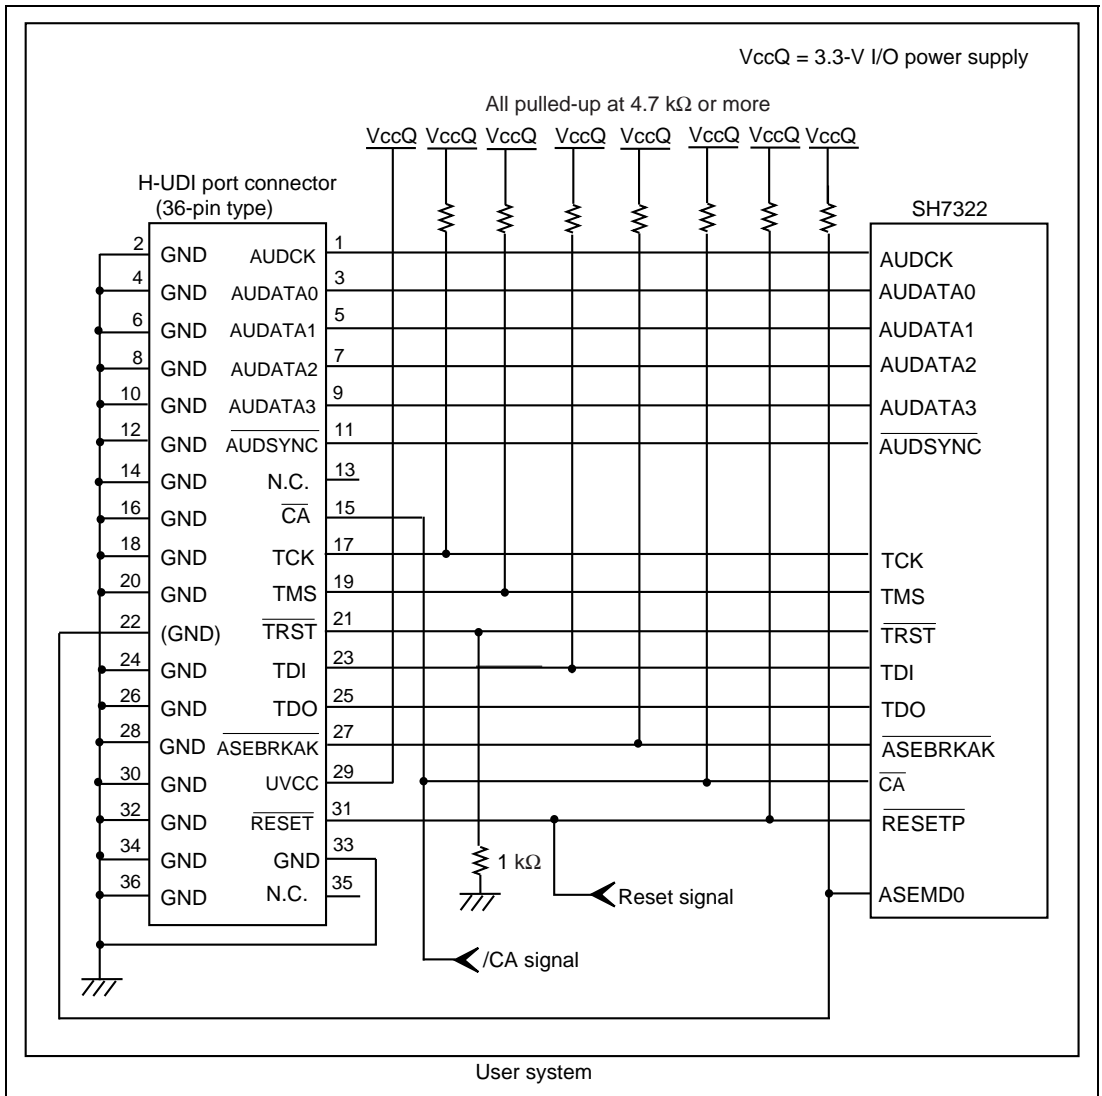
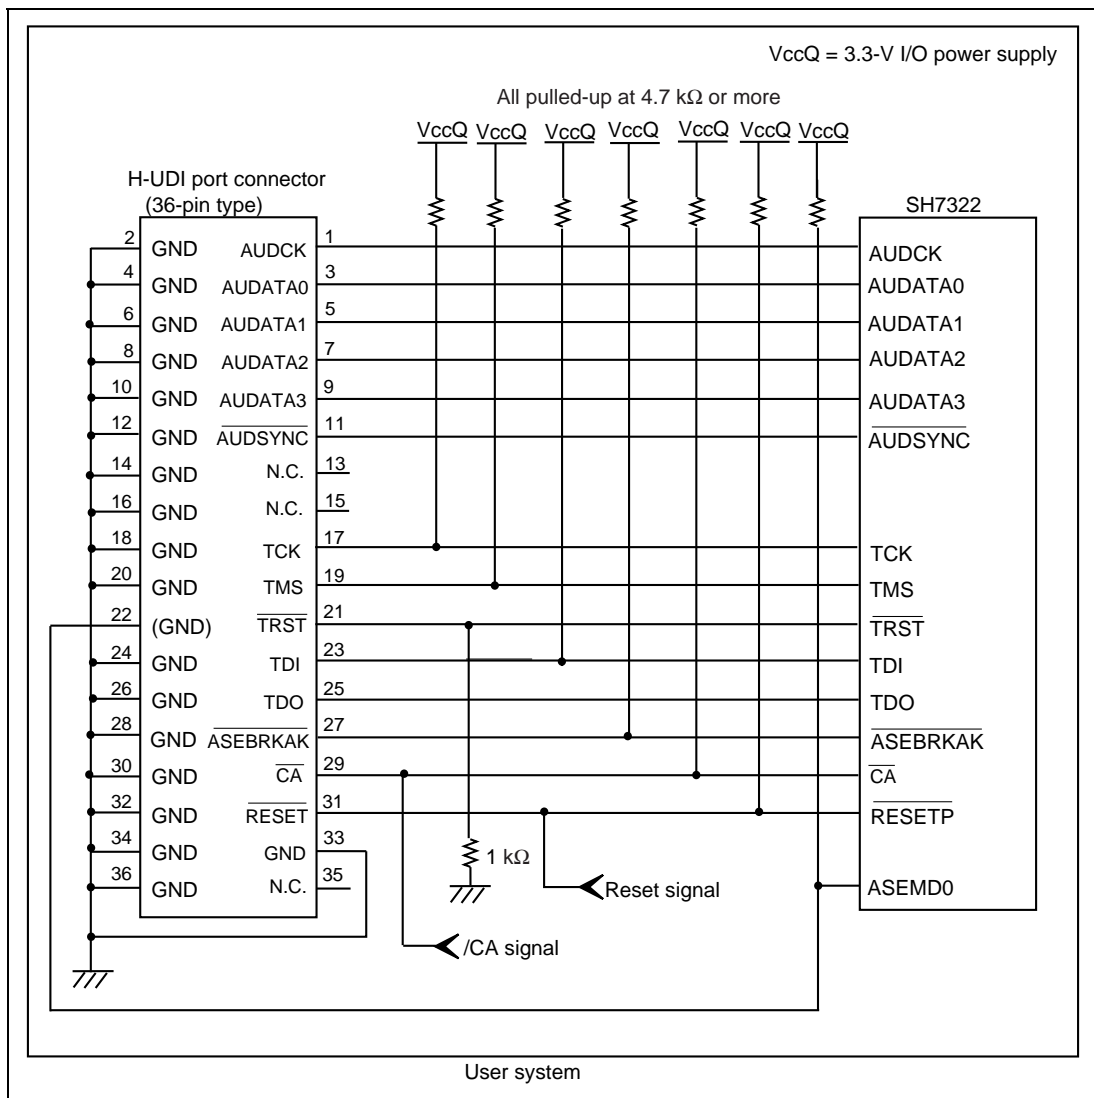

Figure 1.3 Recommended Circuit for Connection between the H-UDI Port Connector and MPU when the Emulator is in Use (36-Pin Type UVCC Connected)
Figure 1.4 Recommended Circuit for Connection between the H-UDI Port Connector and MPU when the Emulator is in Use (36-Pin Type UVCC Not Connected*)
Figure 1.3 shows a recommended circuit for connection between the H-UDI and AUD port connectors (36 pins) and the MPU when the emulator is in use. Figure 1.4 shows a circuit for connection when UVCC is not connected.
- (1) When the emulator is used: $\text{/ASEMD0} = 0$ (ASE mode)
- (2) When the emulator is not used: $\text{/ASEMD0} = 1$ (normal mode)Figures 1.3 and 1.4 show examples of circuits that allow the /ASEMD0 pin to be GND (0) whenever the emulator is connected by using the user system interface cable. When the /ASEMD0 pin is changed by switches, etc., ground pin 22. Do not connect this pin to the /ASEMD0 pin.
With these settings, pin 29 is used as the UVCC pin. The /CA pin must be connected to pin 15 (as shown in figure 1.3).
9. Changing the emulator switches (SW2 = 0 and SW3 = 0) allows pin 29 to be used as the /CA pin. With this setting, supplying the VccQ to the UVCC pin is not available. Thus the I/O voltage level of the user system interface will be fixed to 3.3 V. Pin 15 must be N.C (open), as shown in figure 1.4.
When the circuit is connected as shown in figure 1.3, the switches of the emulator are set as SW2 = 1 and SW3 = 1. For details, refer to section 3.8, Setting the DIP Switches, in the Debugger Part of the SuperH™ Family E10A-USB Emulator User's Manual.
When the circuit is connected as shown in figure 1.4, the switches of the emulator are set as SW2 = 0 and SW3 = 0. For details, refer to section 3.8, Setting the DIP Switches, in the Debugger Part of the SuperH™ Family E10A-USB Emulator User's Manual.